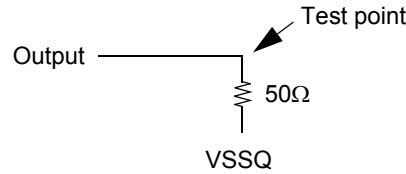

Figure 2. Pull-up slew rate test load
a. Pull-up slew rate is characterized under the test conditions as shown in Figure 2.